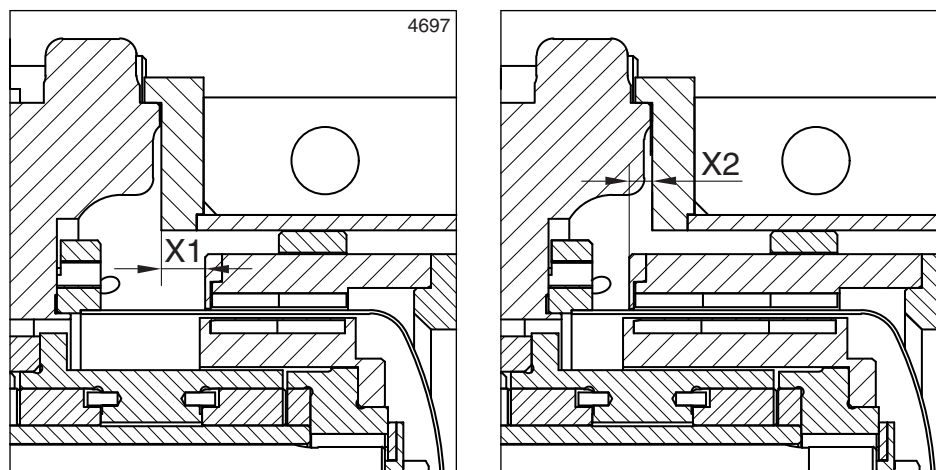

Figure 7: Settings X1 or X2.
- 10 For a final check measure the distance X1 or X2 (see figure 7) between the end of the outer rotor and the fitting edge of the lantern piece and compare it with the corresponding value in the table below.